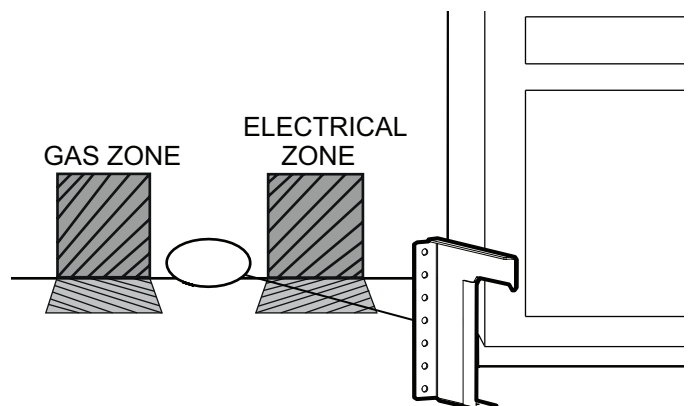
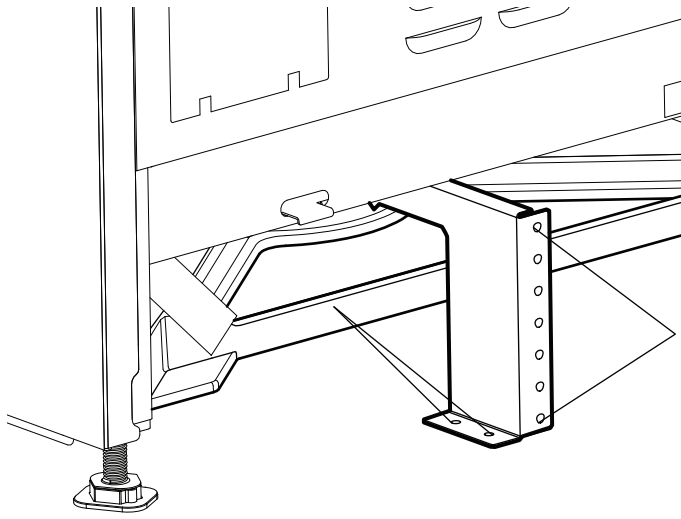

Figure 14: Anti-tip Bracket Mounting Location
Figure 15: Anti-tip Bracket
- At least (2) of the bracket mounting screws must firmly fasten the anti-tip bracket to the floor, and (2) of the mounting screws (or drywall anchors) must firmly fasten the anti-tip bracket to the rear wall (see *Figure 14* and *Figure 15*).
1. Place bracket on floor near the center of where the unit is to be finally located (*Figure 14*).
- Secure bracket into the wall stud using (2) mounting screws or drywall anchors, as appropriate (*Figure 15*).
- Secure the bracket to the floor using the screws provided (*Figure 15*).